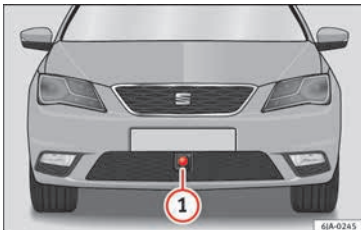

Fig. 189 On the front bumper: radar sensor.
A radar sensor is installed on the front bumper to determine the traffic situation » Fig. 189 ①. This sensor can detect vehicles in front up to a distance of approximately 120 m.